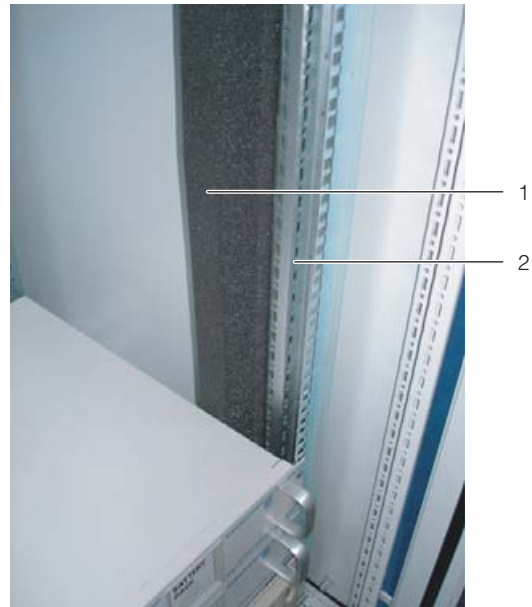

Fig. 14: Foam strip on a server rack support
- Fasten the wider (Model No. 3301.370 / 3301.320) of the two foam strips from the LCP DX accessories onto one of the front supports of the server rack from the outside (fig. 14). Make sure to install this strip on the side of the server enclosure onto which the LCP DX is to be bayed.
- **If you are only baying the LCP DX on one side:** Fasten the narrower (Model No. 3301.380 / 3301.390) of the two foam strips from the LCP DX accessories onto one of the front supports of the server rack from the outside (fig. 14). Make sure to install this strip on the side of the server enclosure which will again be sealed by a side panel.